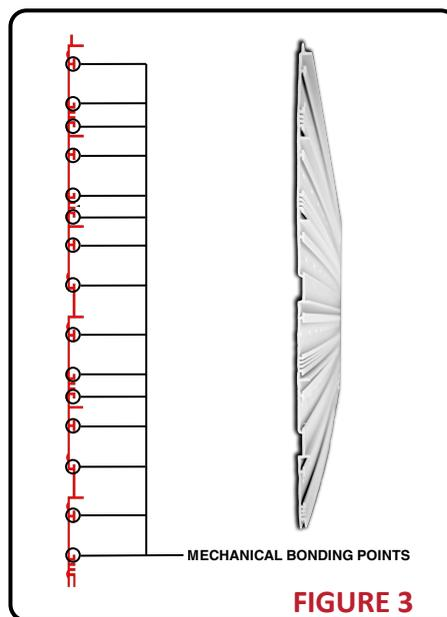

FIGURE 3
C. MASONRY ADHESIVE: Apply a consistent bead of gunnable masonry adhesive directly to the panel on the mechanical bonding points. Apply adhesive to both mechanical bonding points in each brick course on the panel. **(See Figure 3)**
- F. Fasten Stone Lath on the fastener strips. **(See figure 3)**